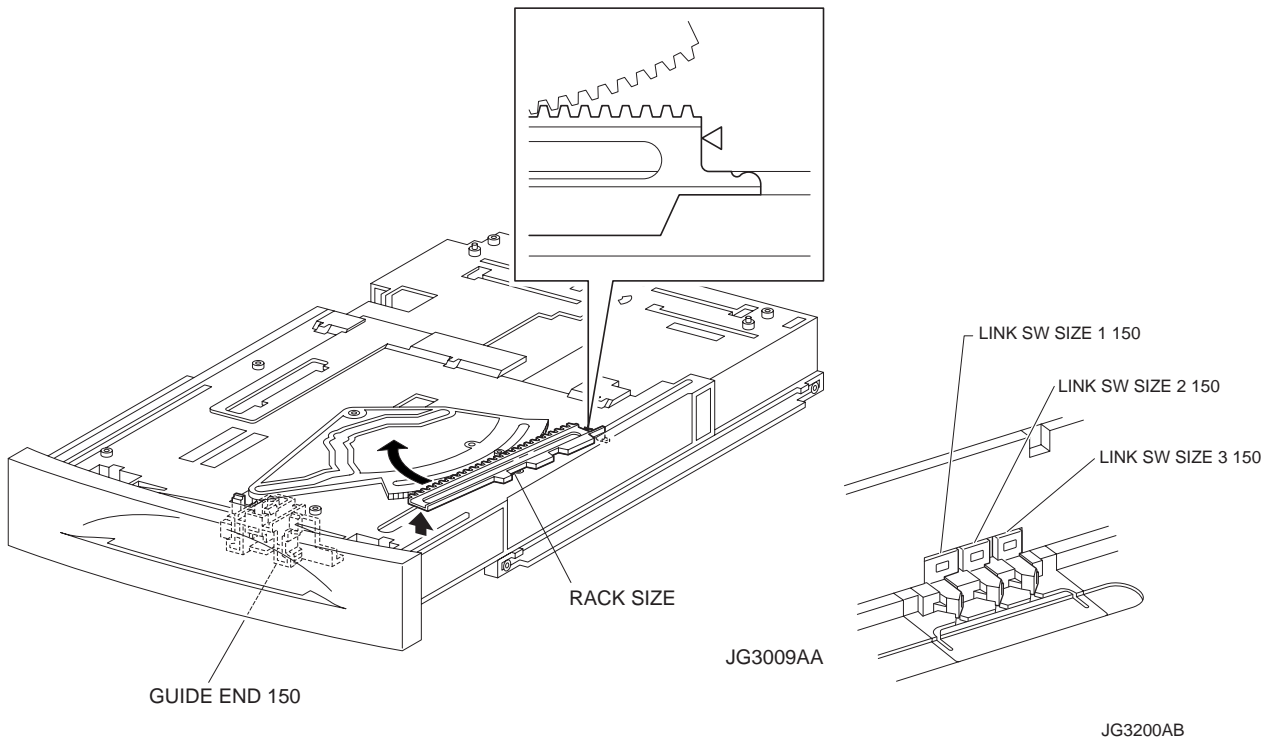

Figure 3. Size Rack
- 11) Lift the front of the RACK SIZE (PL 2.1) a little, and turn it in the direction of the arrow to remove it from the HOUSING EXTENSION 150 (Figure 3).
When installing the RACK SIZE, be sure to pull out the GUIDE ASSEMBLY END 150 (PL 2.1) as far as it will go. (NOTE 1) (Figure 3).
- 4) Install the HOUSING EXTENSION 150 and HOUSING TOP 150 (PL 2.1) to the HOUSING BASE 150 (PL 2.1) while pushing the LINK SW SIZE1-150 (PL 2.1), LINK SW SIZE2-150 (PL 2.1) and LINK SW SIZE3-150 (PL) of the HOUSING BASE 150 outward as shown in the figure (Figure 3).